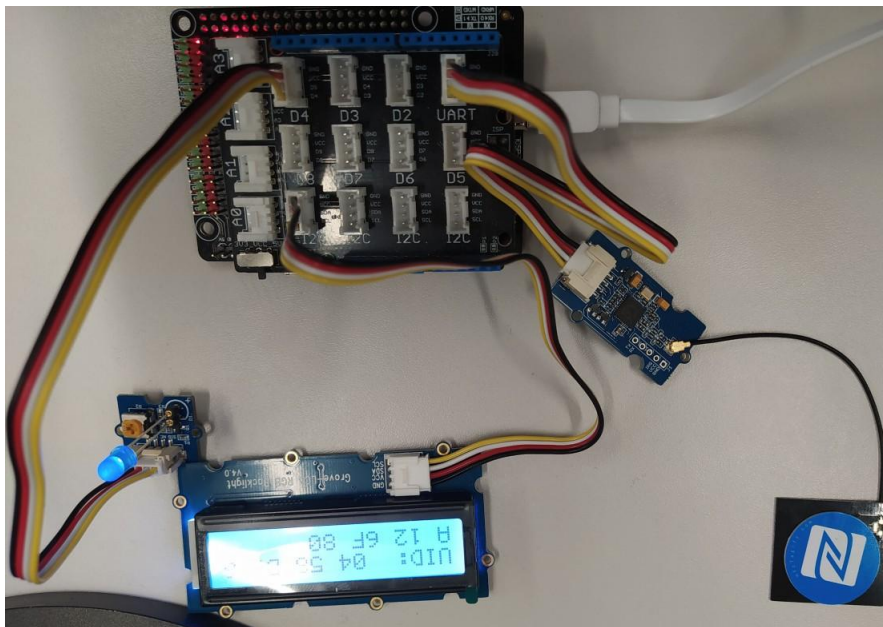

Figure 11.1: The NFC Setup
1. Plug an NFC tag onto or near the Grove NFC module antenna (see Figure 11.1). 2. Compile and **upload** the `nfc.ino` sketch to the Arduino shield. 3. Open the Serial Monitor at the correct baud (e.g., 9600 or 115200). 4. Wave or place the tag in front of the module: